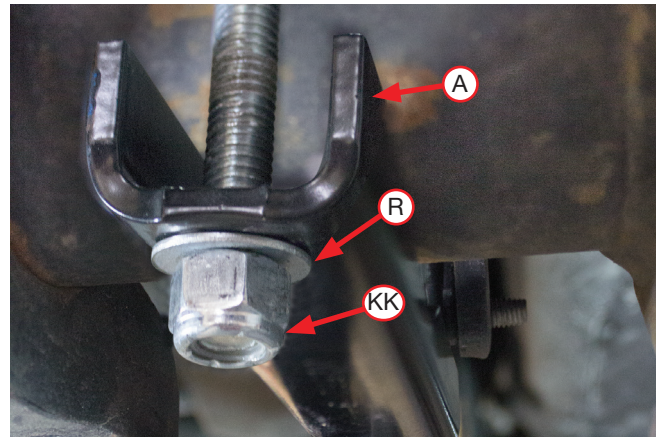

Fig. 31
If you have a sway bar, insert the carriage bolts through the clamp bar (A) as you set the assemblies into position over the axle (see Fig. 31).
8. If not already completed (sway bar noted earlier), set the lower clamp bars (A) over the carriage bolts located under the axle (Fig. 31). Attach with 3/8" flat washers (R) and nylon lock nuts (KK). Evenly torque the lower clamp bar hardware to 16 lb.-ft. (22Nm).